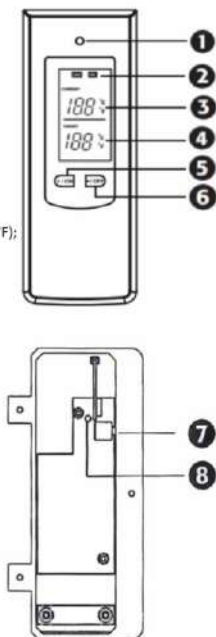

Fig. 3. Schematic image of the UDEN-VS remote control.
7.3.2 After connecting the control board to the electrical network, press and hold button **7** (see **Fig. 3**) (on/off button) for 3 seconds – the red LED indicator **8** (see **Fig. 3**) on the control board will start flashing, indicating
7.3.3 Within a maximum of 2 minutes, press button **5** or **6** on the remote control (see **Fig. 3**) and wait for 1 second. The green indicator on the remote will flash once and the remote will send its code to the control board. When the red indicator stops flashing, it means that the control board has switched from the "binding" mode to the working one. Now the control board will execute the commands of only the remote control to which it is "bound".